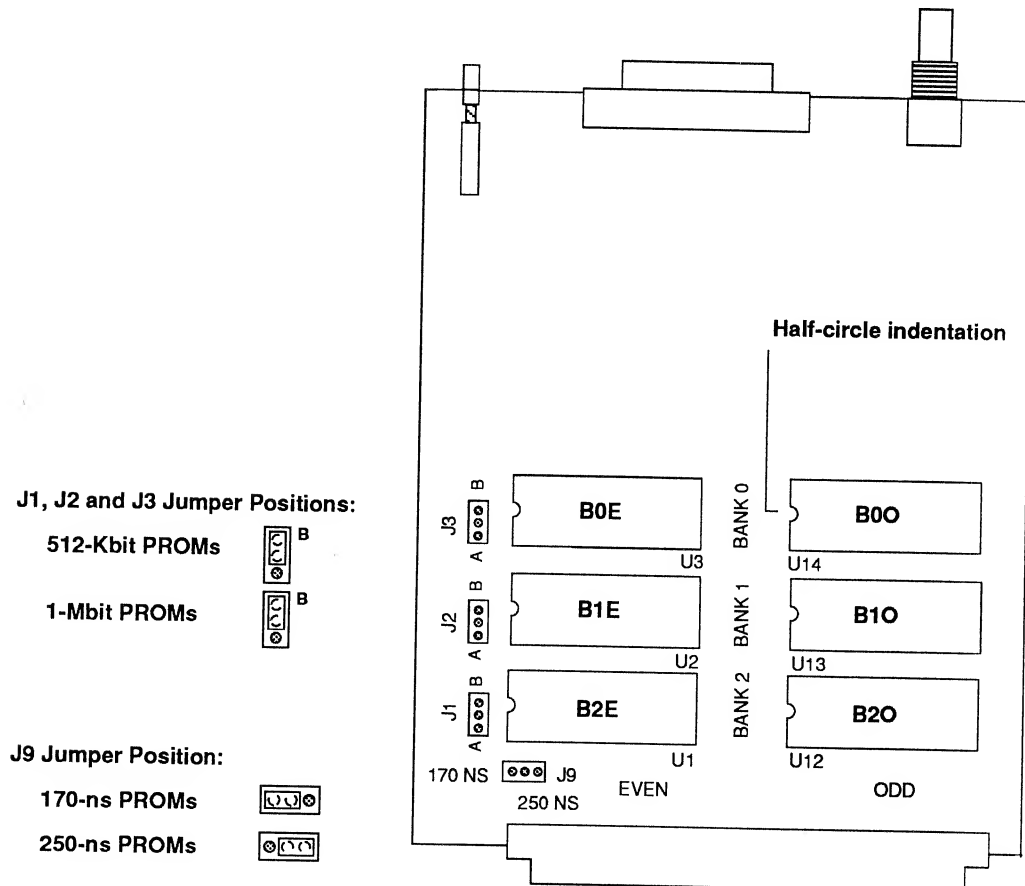

Figure 4. Typical Communications Interface Module
7. Place the module in front of you, oriented as shown in Figure 4.
Using Figure 4, inspect the PROM sockets on the circuit board. noting where PROMs are currently installed. There should be PROMs in Bank 0. There may also be PROMs in banks 1 and 2. The new PROMs will occupy all three banks.
Your Communications Interface Module may have different connectors from those shown in Figure 4. The PROM installation procedure is the same for all modules.
9. Set Jumper J9, located on the lower left side of the board, to correspond with the speed of the PROMs. The correct positions are also shown in Figure 4.
10. Set Jumpers J1, J2, and J3, located to the left of the PROM sockets, to correspond with the size of the PROMs. The correct positions are also shown in Figure 4.